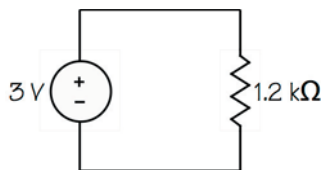
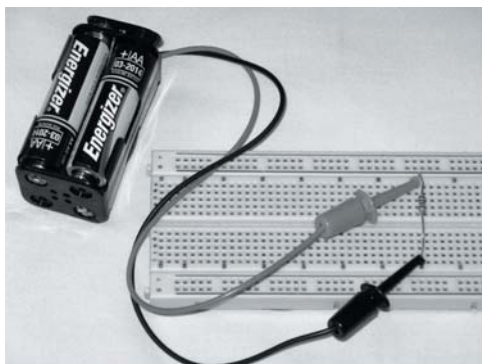

Fig. 2—Battery and resistor
Fig. 3—Battery and resistor
1. Set up the circuit shown in the schematic of Fig. 2 and the photo of Fig. 3. Note that the plus lead of the 3-V supply is at the top of the 1.2-k Ω resistor.